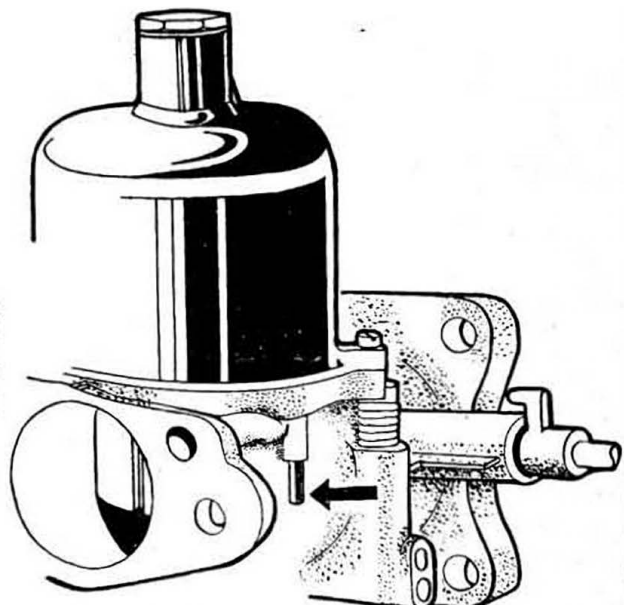

Fig.3.30. The piston lifting pin
- 10 Now refer to Fig.3.30 and check the mixture strength by lifting the piston of the front carburettor approximately 1/32" (0.8 mm) by means of the lifting pin (arrowed), if:-
- 14 Check the mixture strength of the front carburettor (see Fig.3.30) by raising the piston about 1/32" by means of the lifting pin, if:-